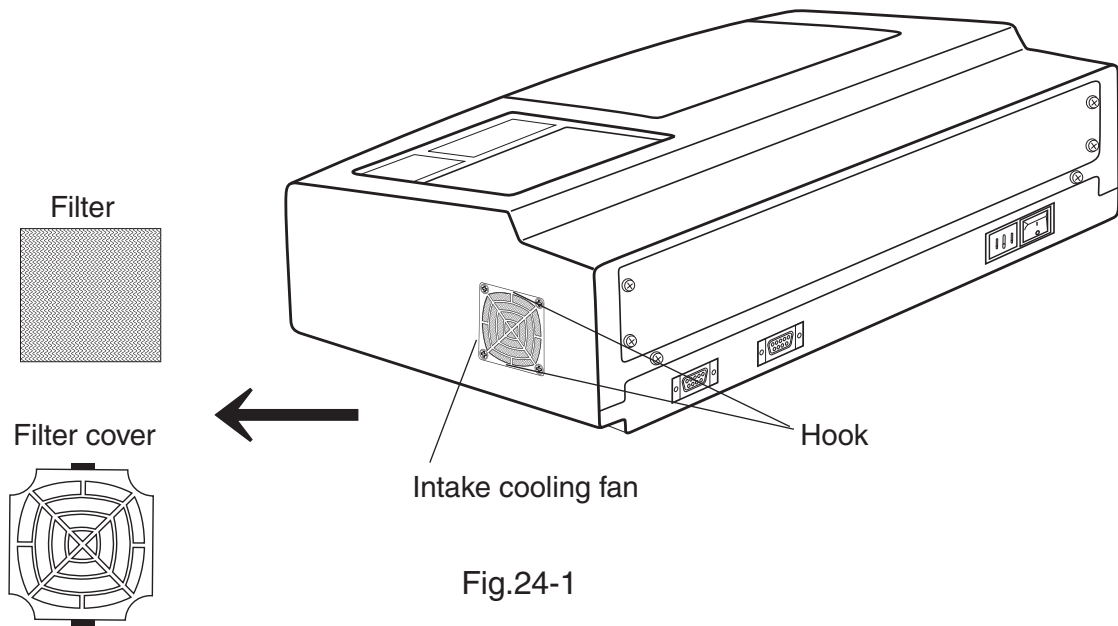

Fig.24-1
a) Press MENU key twice on the Measurement display screen, The screen shown Fig. 24-1 will be displayed.